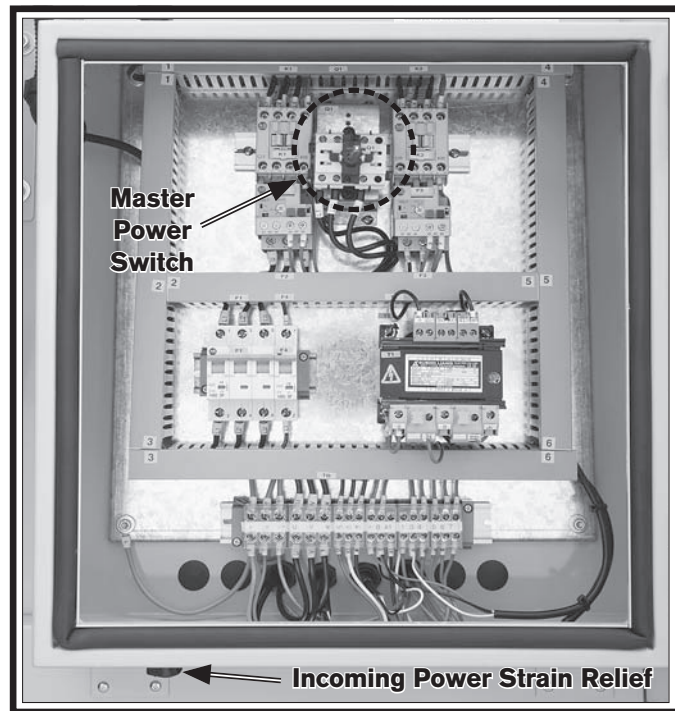

Figure 22. Electrical cabinet.
2. Refer to **Figure 22** to identify the master power switch and the hole at the bottom left for the incoming power supply.